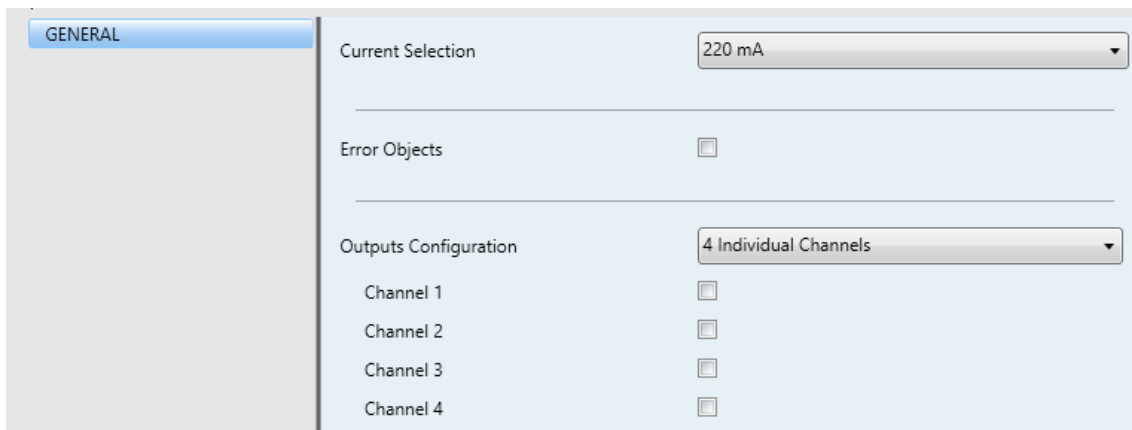

Figure 4 ETS Parameterisation. General.
- **Outputs Configuration:** this device can be parameterized to control current LED loads of the following types: “Individual Channels” (by default), “RGBW” and “RGB+W”. In case of opting for the first option, it will be possible to selectively enable or disable each of the individual channels through the specific checkboxes (see Figure 4).